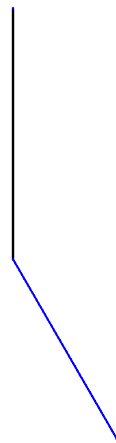
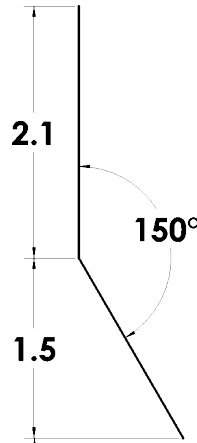

Fig. 2
Fig. 3
Step 3. Click **Line**  (L) on the Sketch toolbar.
Step 4. Draw a line starting directly above the Origin  but do not draw the line to the Origin, **Fig. 2**. Draw a second line from bottom endpoint of first line at angle to the right. Do not bring the angle line down to Origin.
Step 5. Click **Smart Dimension**  (S) on the Sketch toolbar.
Step 6. Add dimensions, **Fig. 3**.